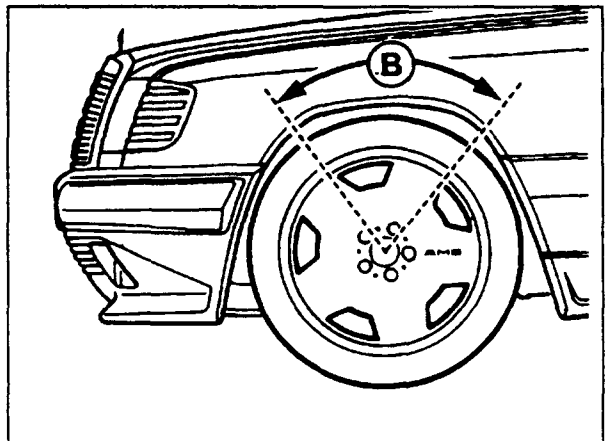

Figure 7
11. Work fender lip contour so that the transition curve (B, Figure 7) is smooth.